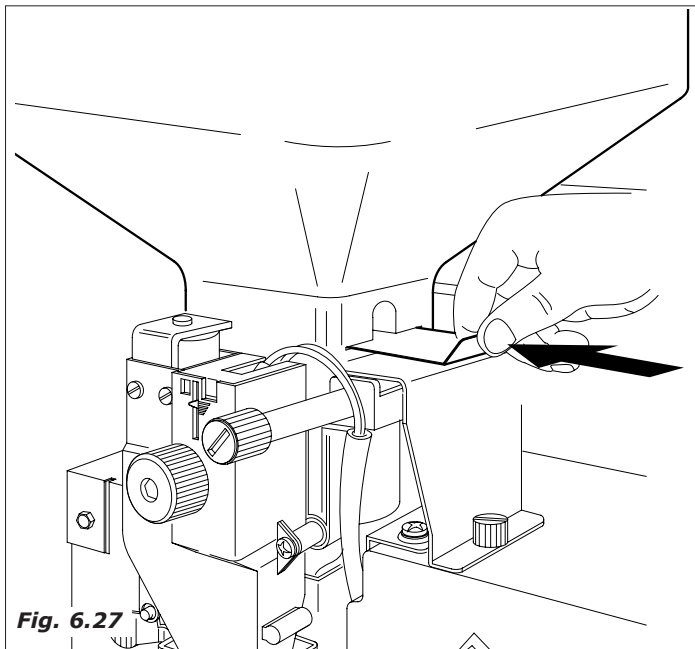

Fig. 6.27
- so as to effect the loading is necessary remove each container (Fig.6.27). Particularly, for the coffee bean container, it is necessary close the chute door before removing the container.